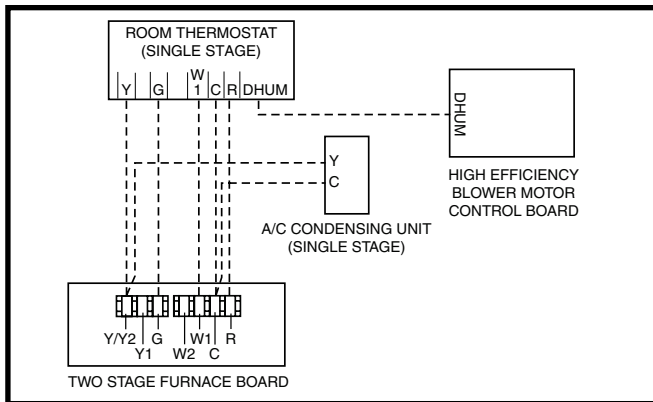
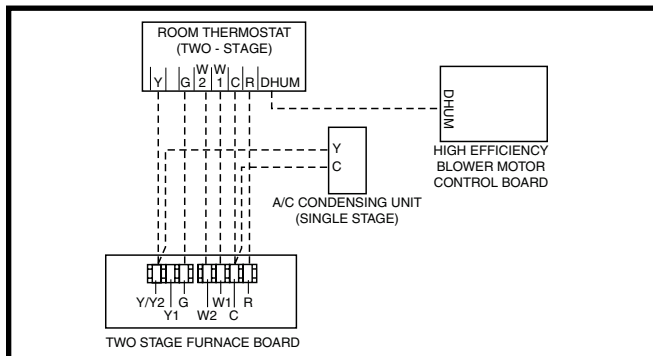
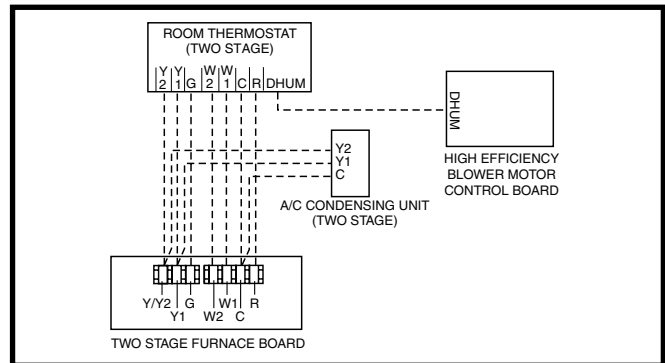

Figure 22. Wiring Configuration 1
Figure 23. Wiring Configuration 2
Figure 24. Wiring Configuration 3
- Connect the thermostat's **W** output to the furnace control board's **W1** terminal. This allows the furnace to always run in low output mode. See Figure 22.
This option uses the full two stage heating capability of the furnace with a single stage outdoor unit. See Figure 23.
This option uses the full two stage heating capability of the furnace with a two stage outdoor unit. See Figure 24.
The Autostaging feature makes it possible to use a single stage thermostat and still receive some of the benefits of 2-stage furnace operation. If Autostage is enabled, the furnace will drop to **LOW** fire after initially starting in **HIGH** fire. After a period of 10 minutes, the furnace will then stage up to **HIGH** fire, until the heating load is met. See Figure 24 and the Low Voltage Connection section on page 24.
- ✓ Verify that all needed thermostat wires are securely connected to the correct leads on the terminal strip of the circuit board. See Figure 22 \(page 25\), Figure 23 \(page 25\), & Figure 24 \(page 25\).
The operating sequences for the heating, cooling, and fan modes are described below. Refer to the field and furnace wiring diagrams: Figure 21 (page 24), Figure 22 (page 25), Figure 23 (page 25), Figure 24 (page 25) & Figure 32 (page 40), Figure 33 (page 41), Figure 34 (page 42), & Figure 35 (page 43).